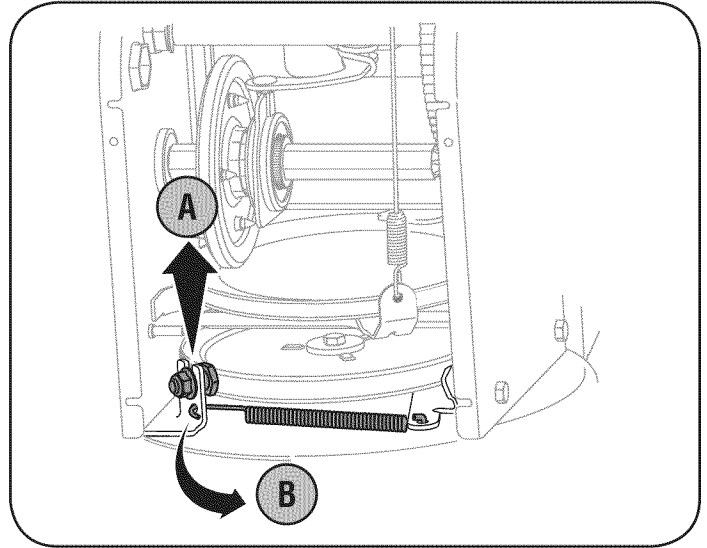

Figure 27
- Remove the belt as follows. Refer to Figure 27.